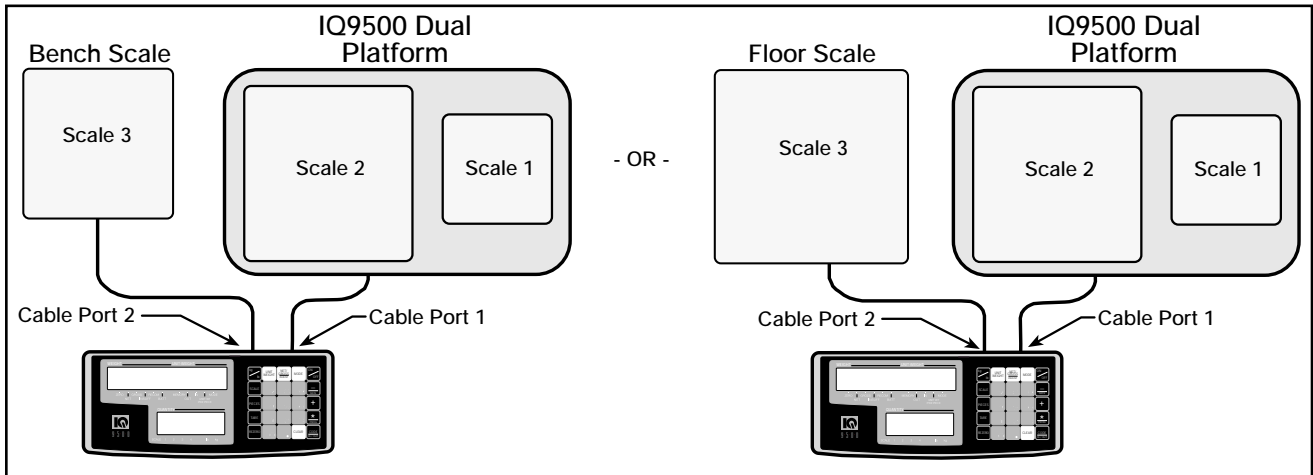

Figure 7-8. Diagram of IQ9500 Dual-Platform Scale with One External Scale
7.2.5 IQ9500 Dual Platform Scale with One External Scale (Figure 7-8)